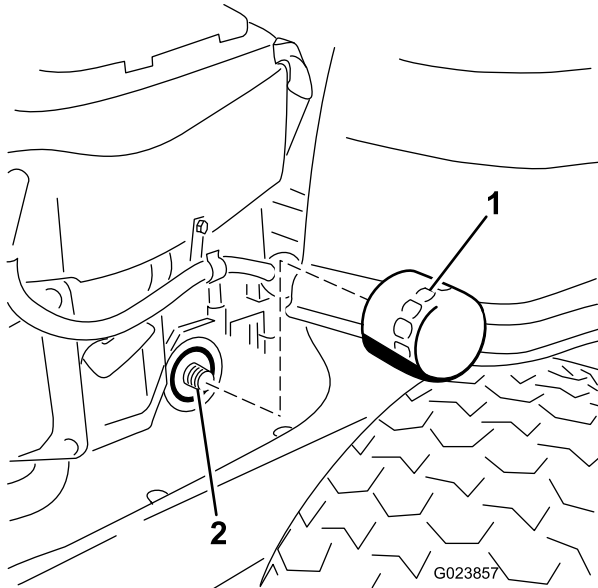

Figure 31
10. Locate the oil filter on the right side of the engine, and remove the old filter and wipe off the filter adapter with a clean cloth (Figure 31).
13. Turn the oil filter clockwise until the rubber gasket contacts the pad, then tighten the filter an additional 3/4 to 1 turn (Figure 31).